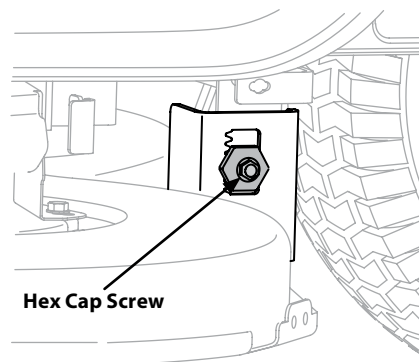

Figure 4-10
3. Loosen, but do NOT remove, the hex cap screw on the left deck hanger bracket. See Figure 4-10.